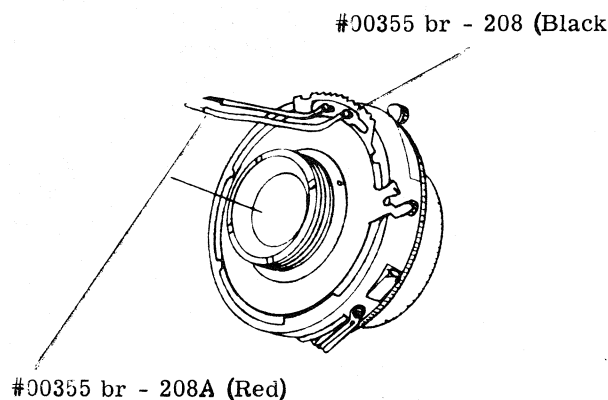

Figure 14. Shutter Wires
- 4) Insert the wire in its terminal hole (figure 14) and solder - if the tinning solder does not hold, add more, but do not allow it to overflow and cause a short on the synchronizing disc lever.